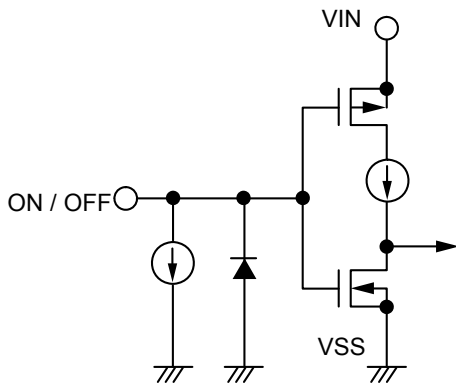
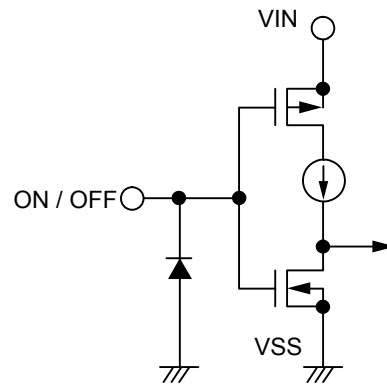

Figure 17 S-1324 Series A / C type
Figure 18 S-1324 Series B / D type
The internal equivalent circuit related to the ON / OFF pin is configured as shown in **Figure 17** and **Figure 18**. Note that the current consumption increases when a voltage of $V_{SL} \text{ max.}^{*1}$ to $V_{IN} - 0.3 \text{ V}$ is applied to the ON / OFF pin.
*3. Note that the IC's current consumption increases as much as current flows into the constant current of $0.1 \mu\text{A}$ typ. when the ON / OFF pin is connected to the VIN pin and the S-1324 Series A / C type is operating (refer to **Figure 17**).